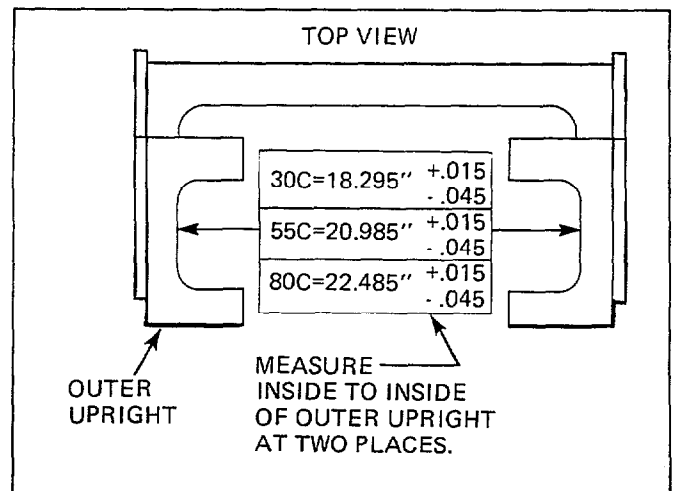

Figure 3. Dimensional Inspection
2. The measurement shown in Figure 3 should be taken after welding and cooling the mast. This dimension must be maintained for the uprights to slide together.